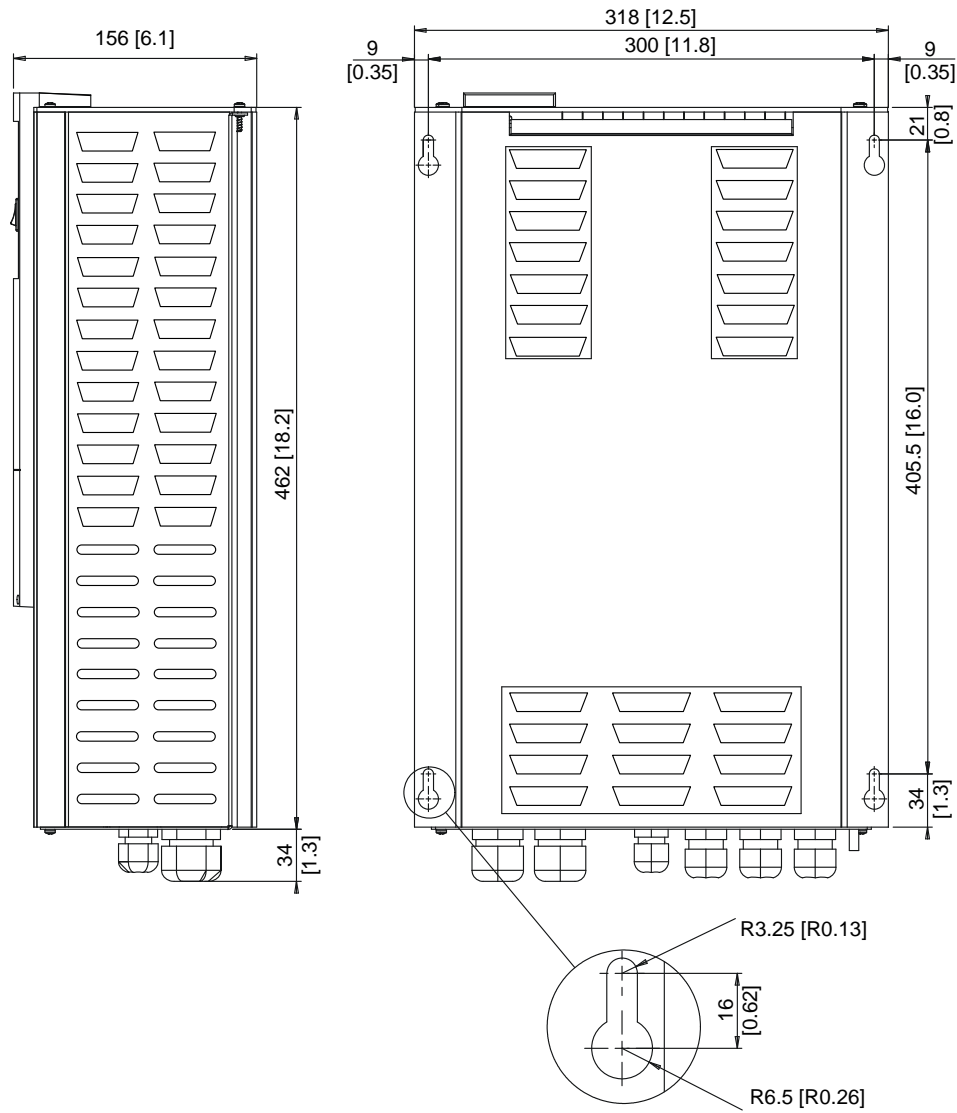

Figure 24: Dimensions in mm [inch] of the Mass Combi 12/2500-100 and 24/2500-60
- 1 Determine for the four mounting spots on the basis of the outline drawings (figure 24)